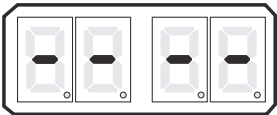

Figure MMC-343-6: Display LED at Normal Operation
- The Display LED during Normal operation has running red center dash lines (Figure MMC-343-6: Display LED at Normal Operation)